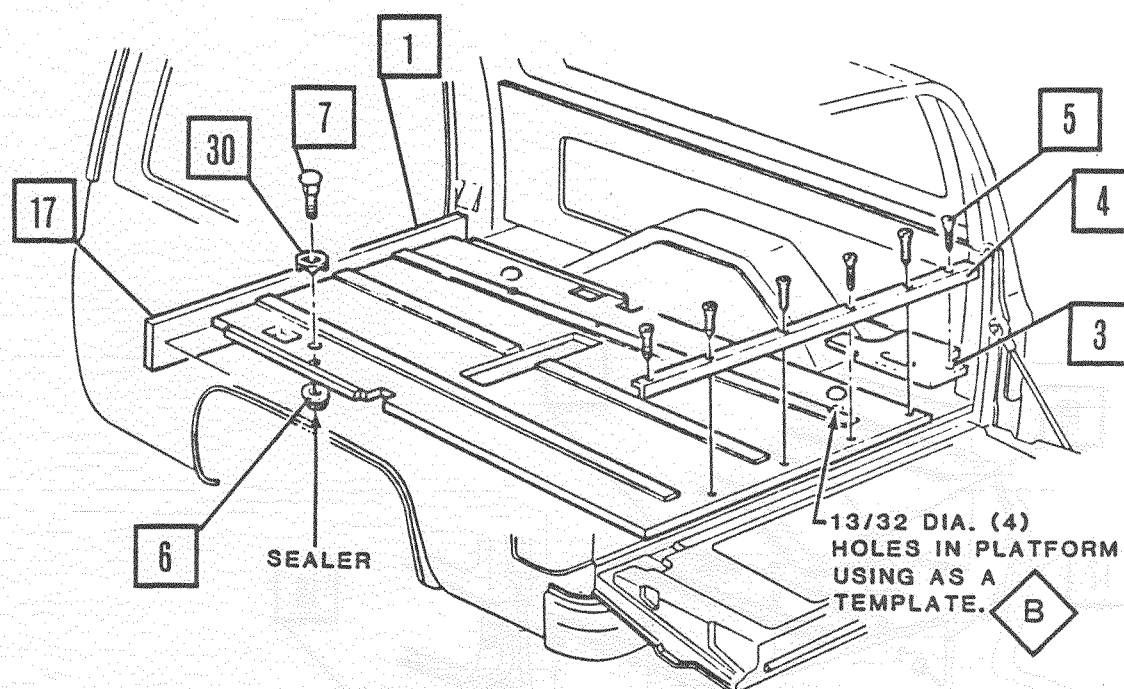

Figure 4.
12. Center rear sill molding on floor insulators using rear sill molding as a template. Drill 3/32 inch holes and secure rear sill molding in place with wood screws (Figure 4.).
13. Close tailgate, drill four 13/32 inch holes in cargo floor using insulator as template (Figure 4.).
14. Install bolt and washer in floor panel center assembly in drilled holes (Figure 4.).
15. Apply sealer around bolt, then install nut. Tighten to 15-22 lb.-ft. (20.0-30.0 Nm) (Figure 4.).
16. Remove screws from plastic molding at front of cargo area and remove plastic molding (Figure 4.).